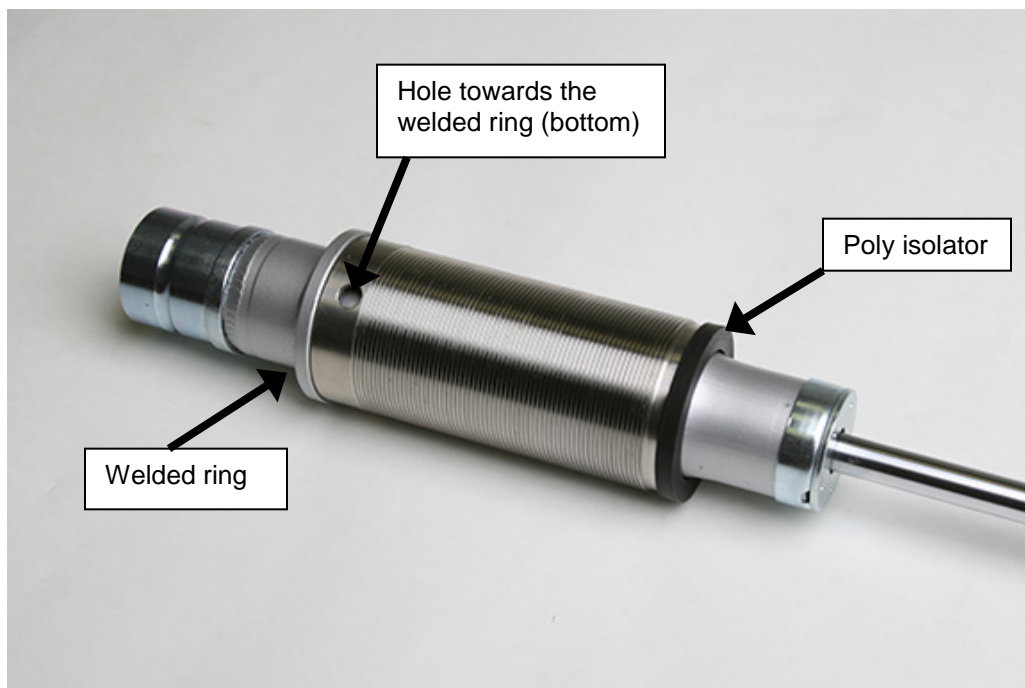

Figure 2
5. Next, place the threaded sleeve over the shock body, with the holes in the sleeve body toward the bottom of the shock. The sleeve fits on the welded ring. Install the threaded sleeve's poly isolator over the shock and into the threaded sleeve, this will require some hand pressure to push into position. (Figure 2)
16. Next, place the threaded sleeve over the shock body, with the holes in the sleeve body toward the bottom of the shock. The sleeve should sit on the welded ring. Install the threaded sleeve's poly isolator over the shock and into the threaded sleeve, this will require some hand pressure to push into position. (Figure 2)